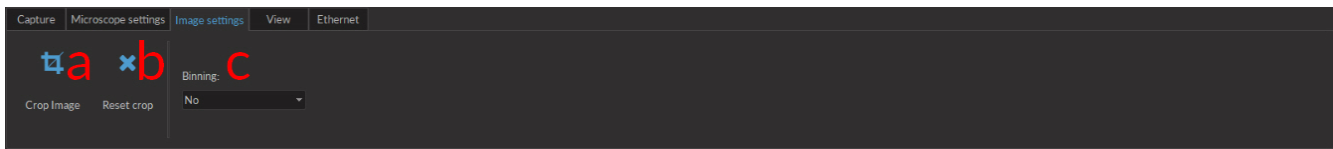

Figure 4.7: Image Settings Tab
4. The **Image settings** tab (Fig. 4.7) is used to define certain settings related to the displayed and recorded images.
- a) The **Crop Image** button (Fig. 4.7) allows a square to be drawn onto the image. When a new **Capture** sequence is activated, only the cropped region will be captured.
- b) The **Reset crop** button (Fig. 4.7) resets the cropped image to its original state. The change will only appear when a new **Capture** sequence is activated.
- c) The **Binning** drop-down list (Fig. 4.7) allows the binning of pixels. This reduces the number of pixels for smaller save file sizes.